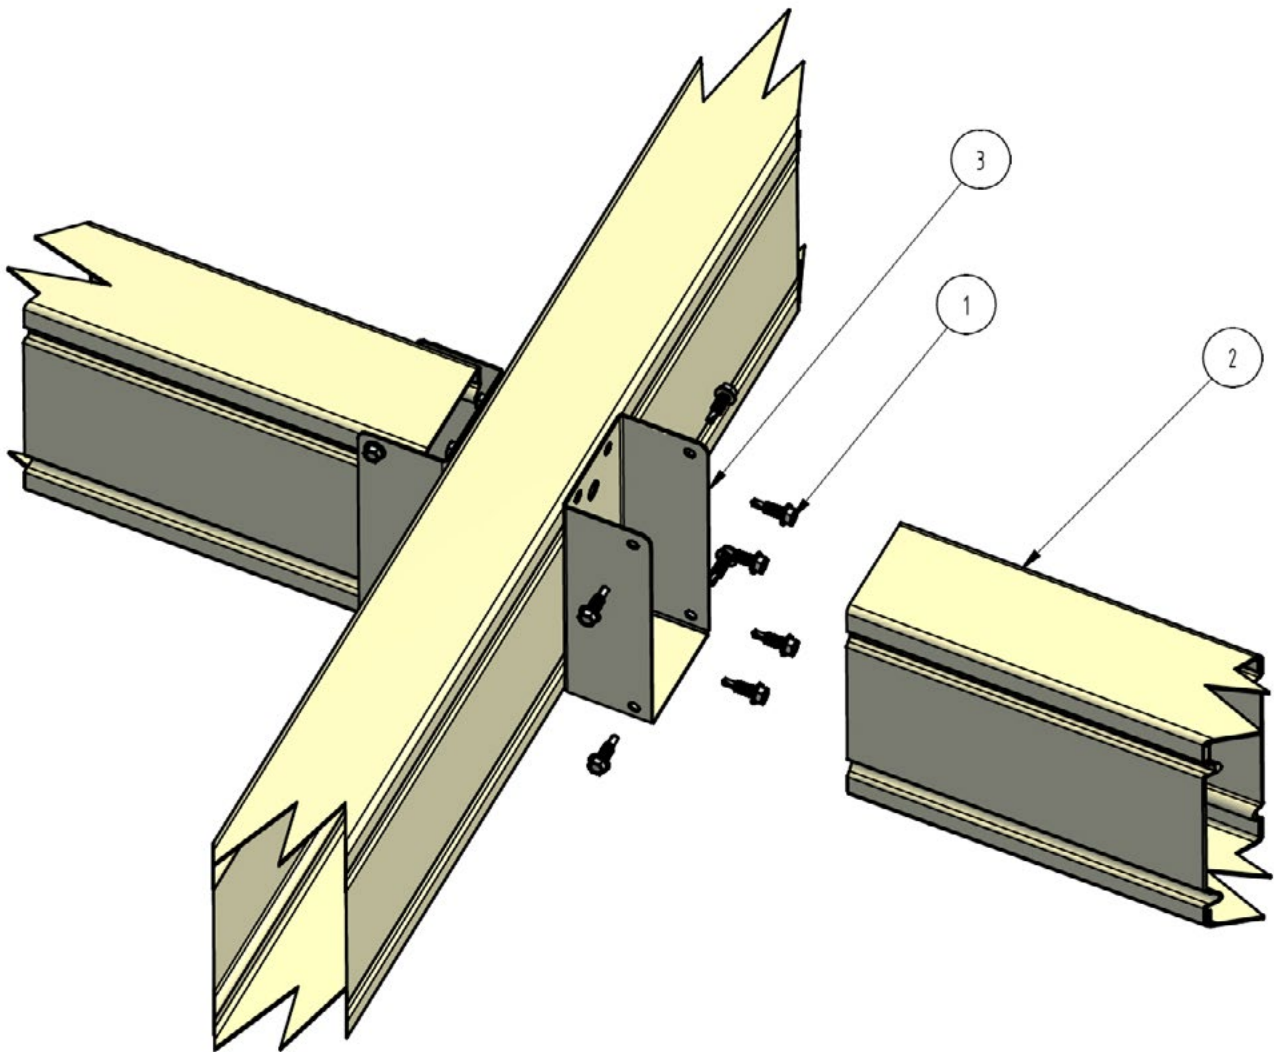

Figure A41
**Beam to Beam Connection (See Figure A41)**